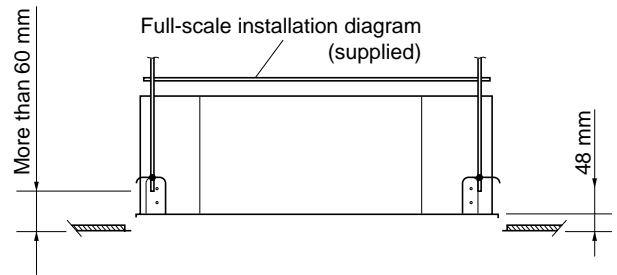

Fig. 3-36
- (1) When placing the unit inside the ceiling, determine the pitch of the suspension bolts using the supplied full-scale installation diagram. (Fig. 3-36)
- (2) The length of suspension bolts must be appropriate for a distance between the bottom of the bolt and the bottom of the ceiling of more than 60 mm as shown in Fig. 3-36.
- (4) Remove the protective cardboard used to protect the fan parts during transport.
- (5) Adjust the distance between the unit and surface of the ceiling (48 mm) using the supplied installation gauge. (Fig. 3-36)